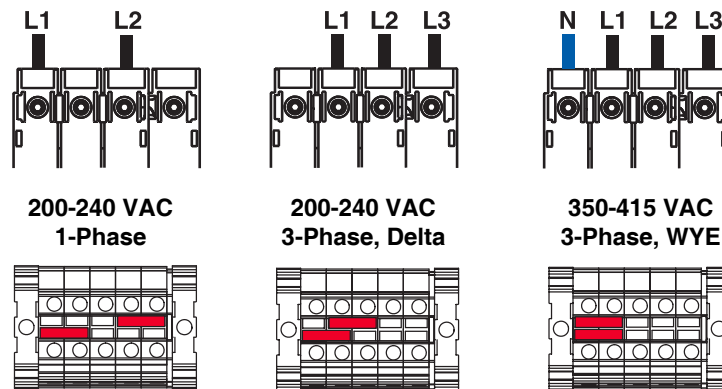

FIG. 1 Terminal Jumpers and Positions
1. Turn main power disconnect switch (ZP) OFF.
4. Connect the ground wire to ground terminal (GT).
5. Connect the power cord as shown in FIG. 1 **Terminal Jumpers and Positions**. Gently pull on all connections to verify that they are properly secured.
6. Tighten the strain relief (SR).